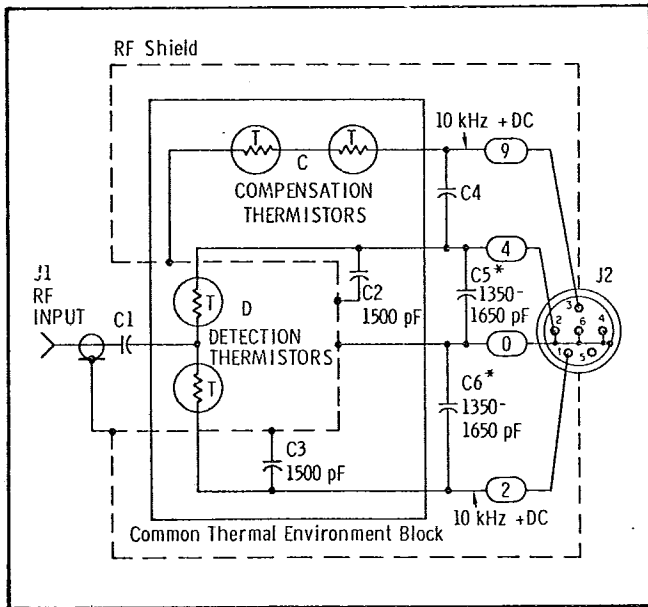

Figure 4. 8478B Connected to a 431C Power Meter
63. Under normal operation, the total power supplied to heat thermistor pair "D" (see Figure 4) consists of: 1) RF signal, 2) 10 kHz bias, and 3) heat from the environment. The total power supplied to heat thermistor pair "C" consists of: 1) dc bias, 2) an equal amount of 10 kHz bias, and 3) heat from the same environment. As "D" and "C" are matched thermally, the total amounts of heat applied to reduce their series resistance equally must be equal.